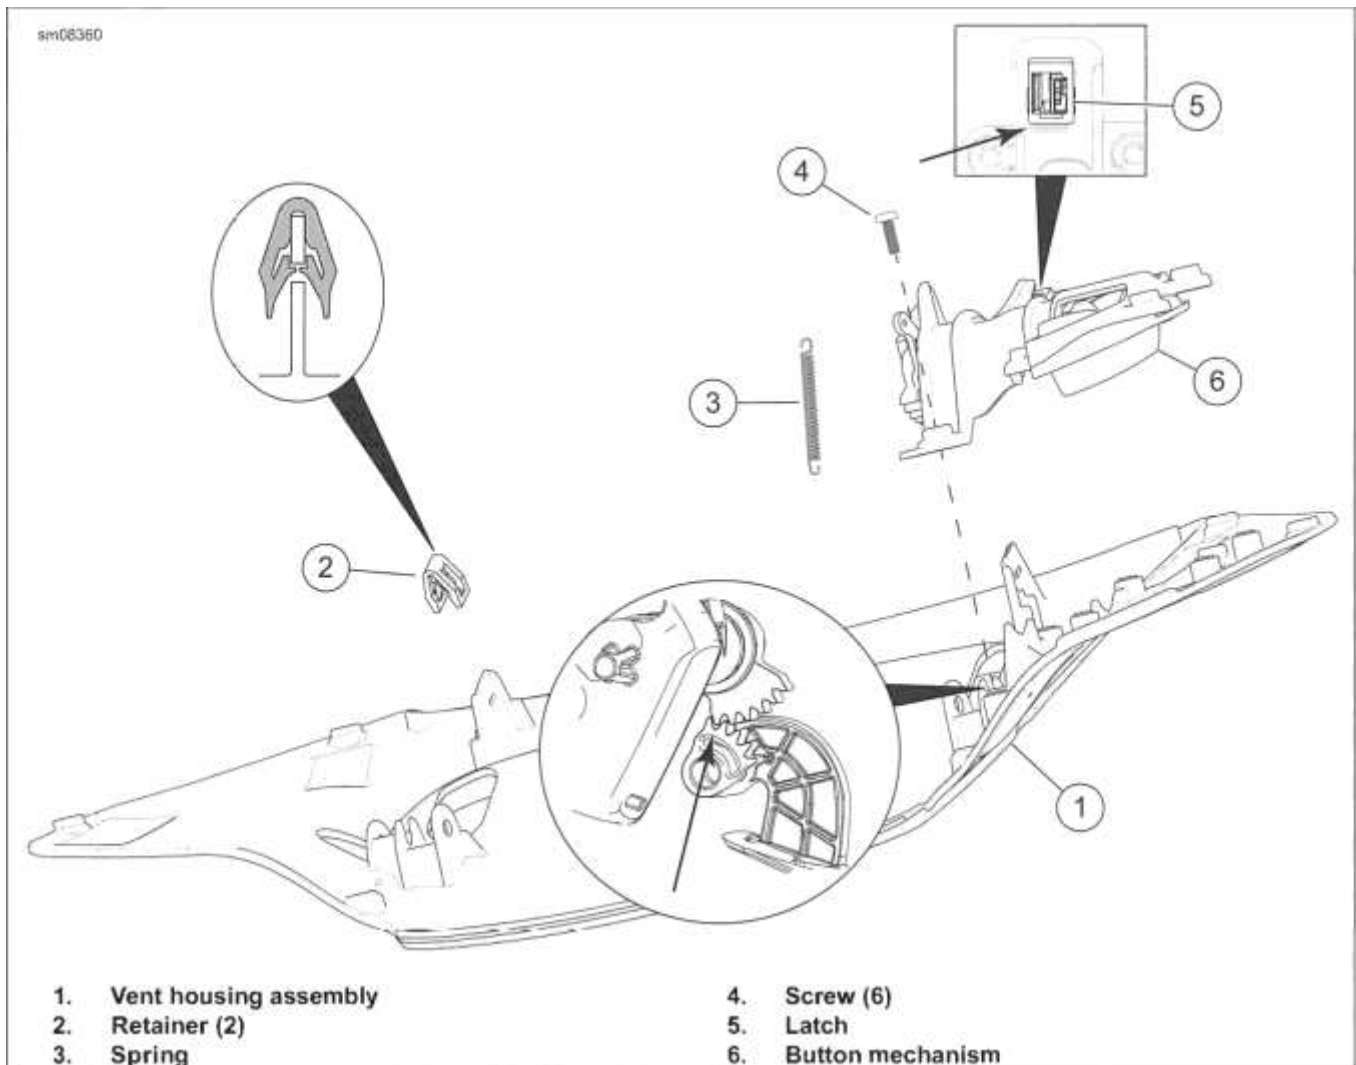

Figure 3-112. Top Air Vent Assembly
1. See Figure 3-112. Replace damaged or missing retainers (2).
2. See Figure 3-112. With latch released, remove screws (4). Remove button mechanism (6) as an assembly.
3. Inspect spring (3) and other components for damage. Clean residue from gear teeth.